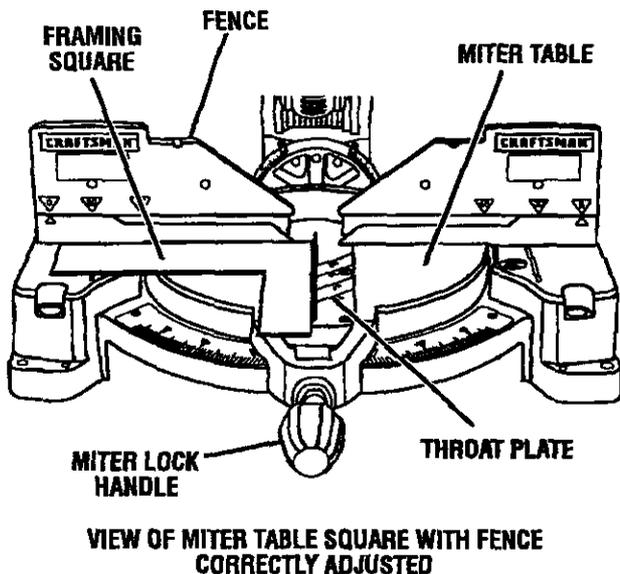

Fig. 21
See Figures 21 - 24.
- Lay a framing square flat on the miter table. Place one leg of the square against the fence. Place the other leg of the square beside the throat plate in the miter table. The edge of the square and the slot in the throat plate in the miter table should be parallel as shown in figure 21.